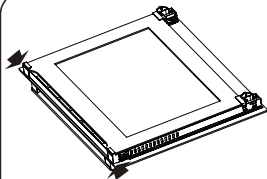
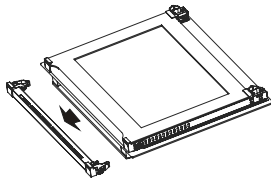

Fig. 10
Fig. 11
1. Press the plastic latches on the left and right sides as shown in Figure 10 and lift the the profile by pulling it towards you as shown in Figure 11. Glass will be free after the profile is removed as shown in Figure 12. Carefully pull the glass that has become free toward you. If necessary, the middle glass can also be removed in the same way. The outer glass is fixed to the oven door profile. You may easily clean the glasses after they have been separated. Once the cleaning and maintenance is complete, you can replace the glasses and the profile by performing the removal procedure in reverse. Make sure that the glass is inserted in the correct direction and that the profile is seated properly.